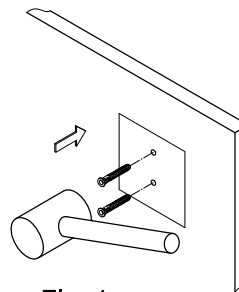

Fig. 4
- Step 5. Hammer in the drywall anchors until flush with the wall (fig 4).